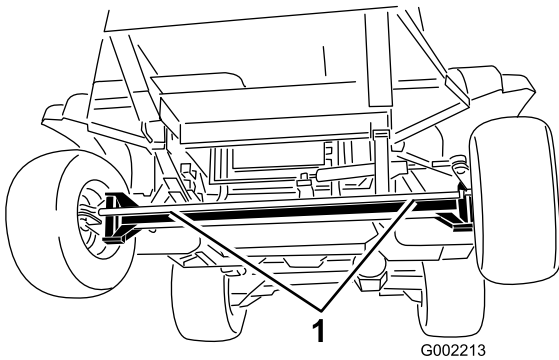
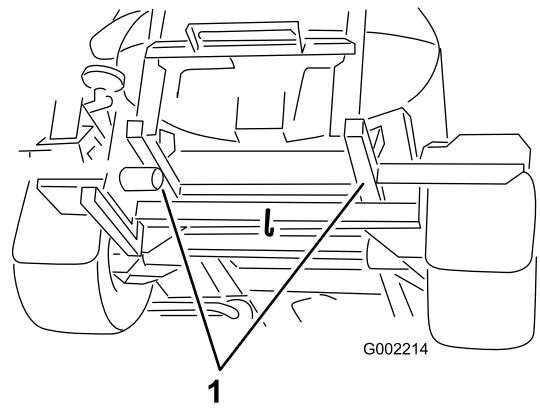

Figure 37
Figure 38
2. Affix a tow line to the frame. Refer to the front and rear towing points in Figure 37 and Figure 38.